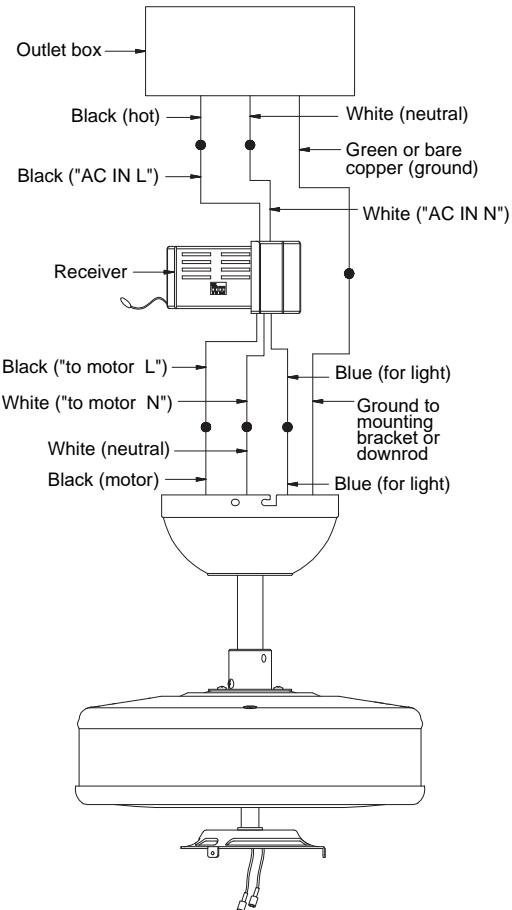

Fig. 14
**Step 2.** Motor to Receiver Electrical Connections: (Fig. 14) Connect the black wire from the fan to the black wire marked "TO MOTOR L" on the receiver. Connect the white wire from the fan to the white wire marked "TO MOTOR N" on the receiver. Connect the blue wire from the fan to the blue wire marked "FOR LIGHT" on the receiver. Secure all the wire connections with the plastic wire nuts provided.
**Step 3. (Fig. 14)** Receiver to House Supply Wires Electrical Connections: Connect the black (hot) wire from the ceiling to the black wire marked "AC in L" from the receiver. Connect the white(neutral) wire from the ceiling to the white wire marked "AC in N" from the Receiver. Secure the wire connections with the plastic wire nuts provided.
**Step 4. (Fig. 14)** If your outlet box has a ground wire (green or bare copper) connect it to the fan ground wires; otherwise connect the hanging bracket ground wire to the mounting bracket. Secure the wire connection with a plastic nut provided. After connecting the wires, spread them apart so that the green and white wires are on one side of the outlet box and black and blue wires are on the other side. Carefully tuck the wire connections up into the outlet box.